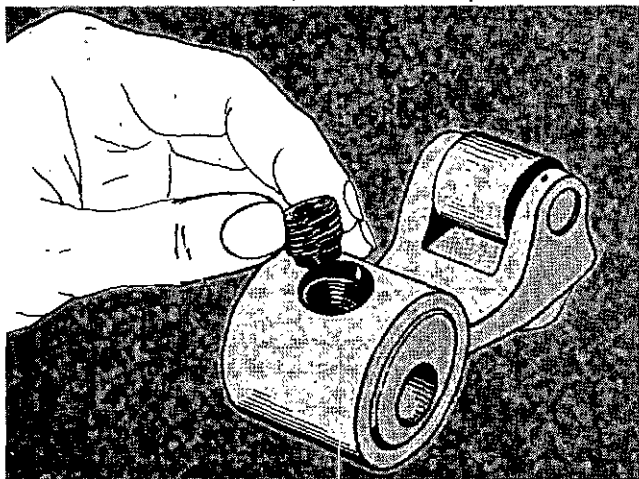

Fig. 4-23. Install The Setscrew For The Eccentric.
4. Install the eccentric into the bore of the injector cam follower lever. Install the setscrew into the eccentric to hold the eccentric in position in the lever, Fig. 4-23. Make sure the setscrew does not extend into the shaft bore of the eccentric.